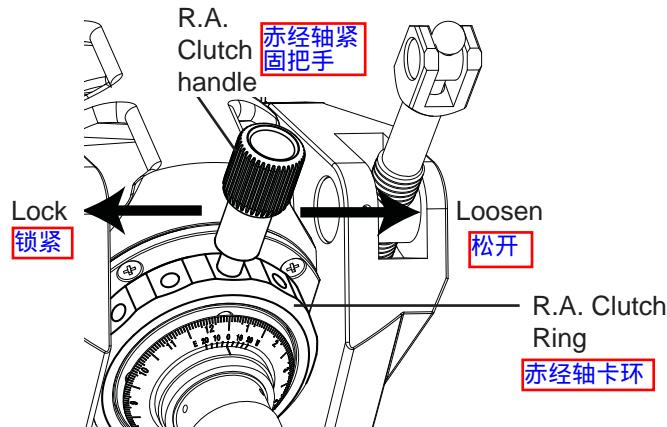

Fig. 2.1a
1. Release the R.A. Clutch to manually rotate the R.A. Axis. (Fig. 2.1a)
2. The R.A. Clutch handle can be removed and re-positioned on the clutch ring for adjustment of the tightening strength. (Fig. 2.1a) 2. 可以通过拆卸和复位赤经轴卡环上的赤经轴紧固把手来调节拧紧的力度 (见图2.1a)